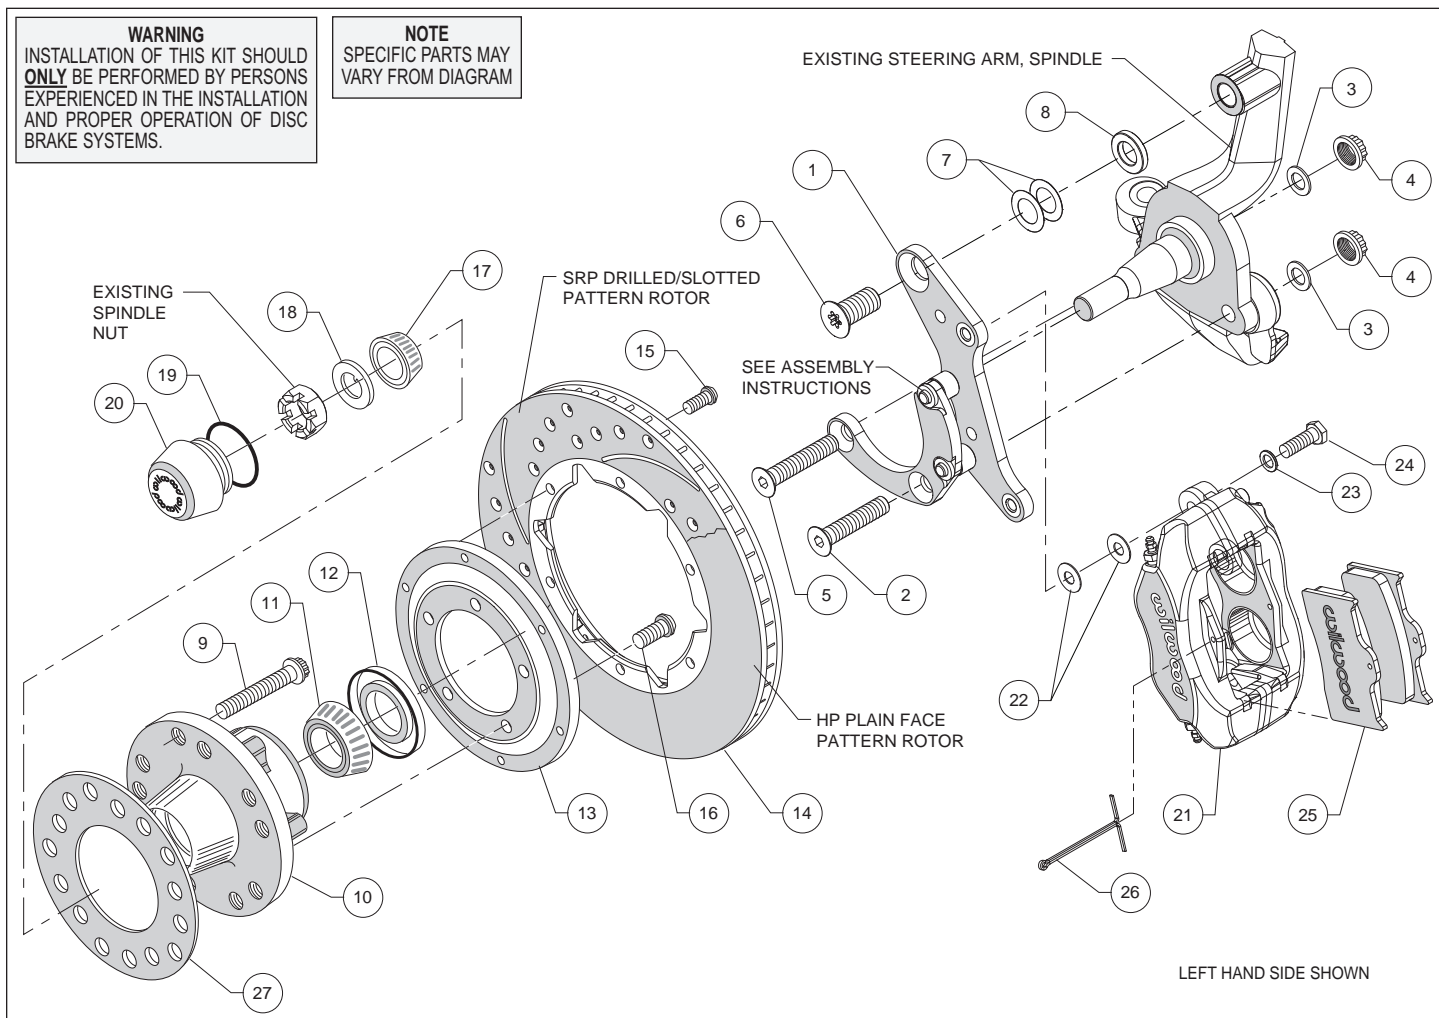
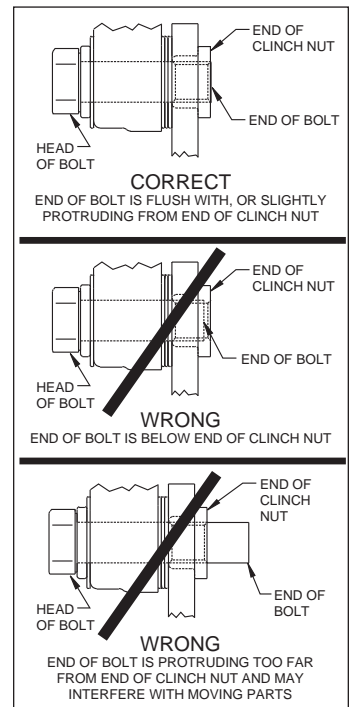

Figure 1. Typical Installation Configuration
Figure 3. Clinch Nut Engagement Diagram
**Assembly Instructions** (numbers in parenthesis refer to the parts list and Figure 1 on the preceding pages): **CAUTION:** All mounting bolts must fully engage clinch nuts. Be sure to check that all bolts are either flush or protruding through flanged side of clinch nut after shimming, Figure 3.
- The caliper mounting bracket (1) has been assembled at the factory for alignment purposes. Loosen the two bolts that secure the brackets together so that the bolts are hand tight only, this will enable the bracket assembly to be adjusted to accommodate various spindle tolerances during assembly. Align bracket with the two lower holes on the spindle face and attach using bolts (2 and 5), washers (3), and secure using lock nuts (4), as shown in Figure 1 and Photo 1. Install bolt (6) through top of bracket while placing spacer (8) and shims (7) between bracket and spindle, Figure 1. Initially place two .010" thick shims (7) on the top bolt between the bracket and upright, Figure 1. Temporarily tighten the mounting bolts. Ensure that the flanged heads of the clinch nuts in the bracket are facing outboard, Photo 1. **NOTE:** The bracket must fit squarely against the mounting points on the spindle and be parallel with the mounting face. If not, add or subtract shims (7) on the top bolt between the bracket and spacer. Inspect for interference from casting irregularities, machining ridges, burrs, etc. Torque lock nuts (4) to 65 ft-lb. Remove the upper bolt, apply red *Loctite*® 271 to threads, and torque to 140 ft-lb. Remove one at a time the bolts that secure the bracket assembly to each other, apply red *Loctite*® 271 to the threads and torque to 40 ft-lb.
- Install the grease seal (12) by pressing into the backside of the hub (10), flush with the end of the hub, Photo 3.
- Orient the rotor (14) and the rotor adapter (13) as shown in Figure 1 and Photo 4. Attach the rotor to the adapter using bolts (15). Using an alternating sequence, apply red *Loctite*® 271 to the threads, and torque to 25 ft-lb.
- Mount the adapter/rotor assembly (13/14) to the hub (10) using bolts (16), as shown in Figure 1 and Photo 5. Using an alternating sequence, apply red *Loctite*® 271 to the threads, and torque to 45 ft-lb.
- Pack the small outer bearing cone (17) with high temperature disc brake bearing grease and install into hub (10). Slide the hub/rotor assembly onto the spindle. Secure using spindle washer (18) and OEM spindle nut, Photo 6. Adjust bearings per OEM specifications. Install saved OEM nut lock (if any) and a new cotter pin (not supplied).
- Screw dust cap (20) into hub (10), Photo 7. Friction created by the o-ring (19) on the dust cap keeps it from unscrewing. **NOTE:** The O.D. of the existing OEM spindle washer may be larger than the I.D. of the dust cap not allowing it to seat against the hub face. Therefore, use the spindle washer (18) supplied with the kit instead of the OEM washer.
- NOTE:** Please reference the caution statement at the beginning of the assembly instructions. Mount the caliper (21) onto the caliper mounting bracket (1) using bolts (24) and washers (23), as shown in Figure 1. Initially place two .035" thick shims (22) on each bolt between the caliper and the bracket, Photo 8. Temporarily tighten the mounting bolts and view the rotor (14) through the top opening of the caliper. The rotor should be centered in the caliper, Photo 9. If not, adjust by adding or subtracting shims between the bracket and the caliper. Always use the same amount of shims on each of the two mounting bolts. **NOTE:** The end of each bolt must be flush with or slightly protruding from the head of the clinch nut, as shown in Figure 3. If necessary place spare shims between washer (23) and caliper mounting ear to achieve the proper clinch nut engagement. Once the caliper alignment and clinch nut engagement are correct, remove the bolts one at a time, apply red *Loctite*® 271 to bolt threads, and torque to 40 ft-lb.
- Install the disc brake pads (25) into the caliper, with the friction material facing the rotor (14), and secure in place using cotter pin (26), Photo 10.
- Temporarily install wheel and torque lug nuts to manufacturer's specification. Ensure that the wheel rotates freely without any interference. **NOTE:** Wheel spacer (item 27) **MUST** be used if any wheel contact surfaces overhang the outside diameter of the hub face. See warning on page 3.